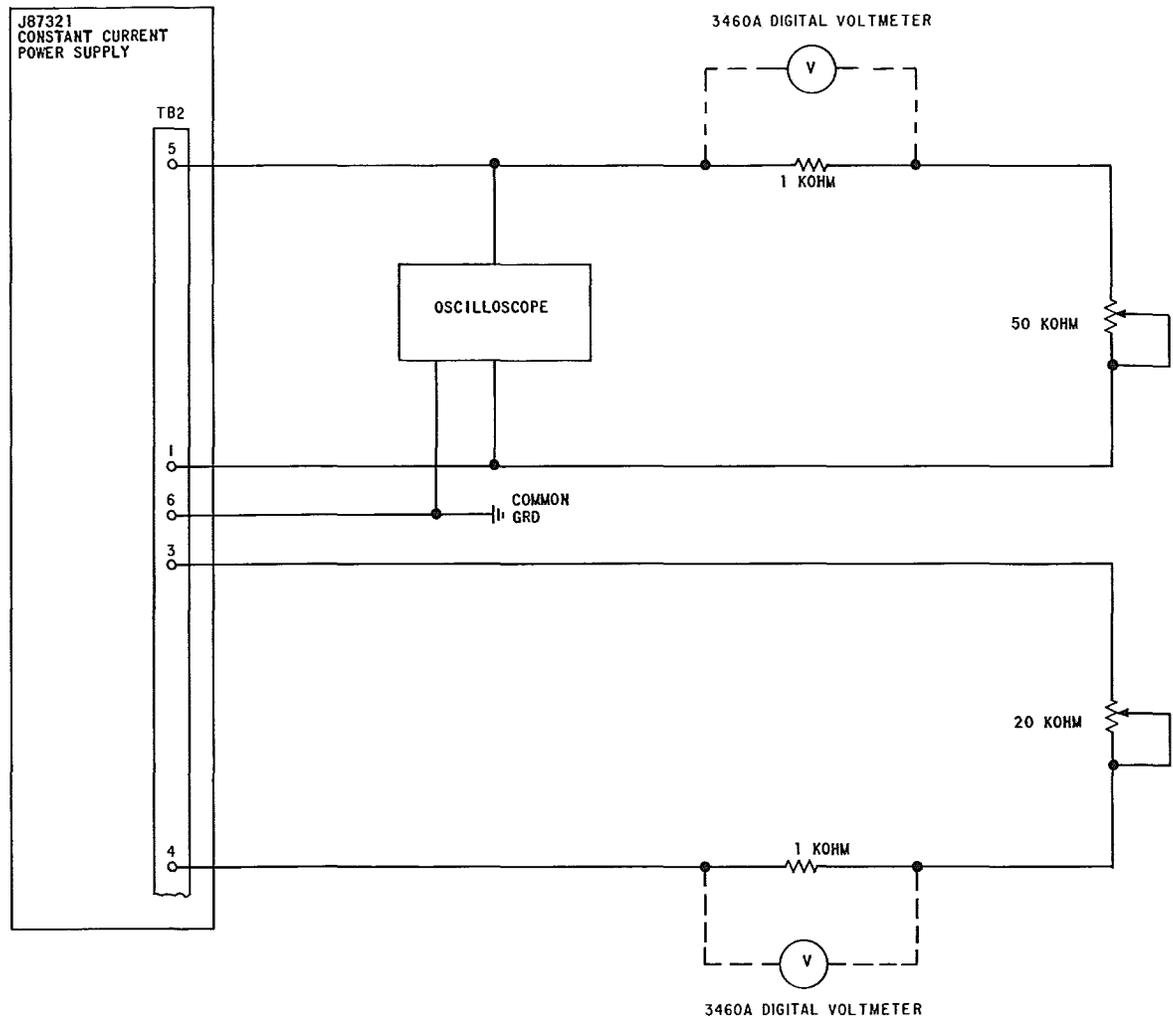

Fig. 1—Test Connections for J87321 Constant Current Power Supply
- (4) Connect the 1-K ohm standard resistor in series with the 50-K ohm potentiometer between terminals 1 and 5 on TB2 (see Fig. 1).
- (5) Connect the ac input to the power supply and operate the 1 MA switch to the ON position.
- (6) Measure the dc voltage across capacitor C2 on CP3 using the 3460A digital voltmeter set to the 100-volt range.
- (10) Operate the 1 MA switch to the off position and disconnect the ac input voltage.
- (11) Disconnect the oscilloscope, the 50-K ohm potentiometer and the 1-K ohm standard resistor.
- (12) Connect the 1-K ohm standard resistor in series with the 20-K ohm potentiometer between terminals 3 and 4 on TB2 (see Fig. 1).
- (13) Connect the 3460A digital voltmeter, set to the 10-volt range, across the 1-K ohm resistor.
- (14) Connect the KS-8039 volt-milliammeter, set to the 300-VOLT DC scale, to the + and - 150/200V OUTPUT test jacks.
- (15) Connect the ac input voltage and operate the 10 MA switch to the ON position.